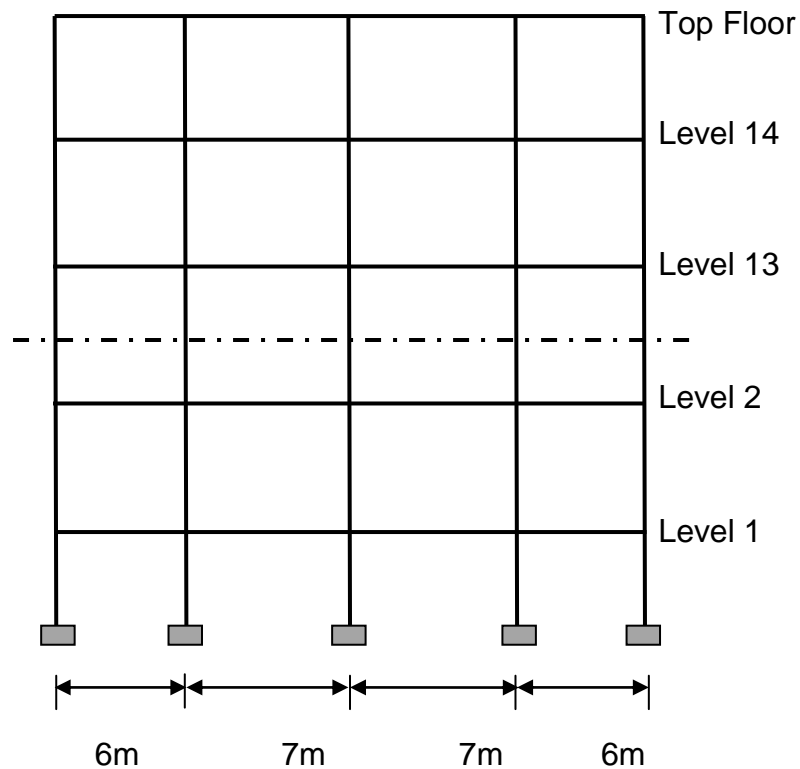

Figure 2
- (b) A 15-storey rigid frames is shown in Figure 2 with its intensity of wind loading of 1.5 kN/m^2 through out the height. The typical story height is 3m, to give a total height of 45m. The frames are spaced at 6m. Determine the member forces and moments of the top floor using Cantilever Method and the 13th floor using Portal Method.